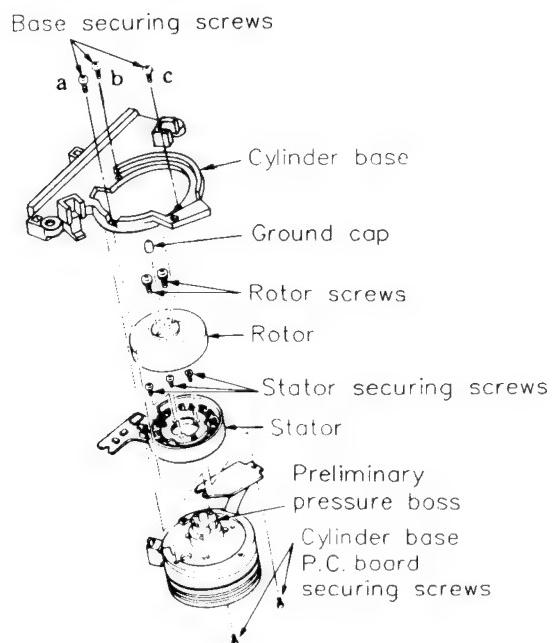

Fig. 4-2-3 Cylinder motor replacement
3. Remove three base securing screws and remove the cylinder base. (Fig. 4-2-3)
5. Remove the rotor screws and the rotor. (Fig. 4-2-3)
8. Replace the rotor. (Tightening torque 3 – 4 kg-cm) (Fig. 4-2-3)
(Tightening torque is 3 – 4 kg-cm.) (Fig. 4-2-3)